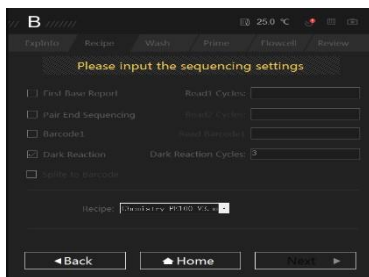

Figure 3 Dark reaction setting instruction (BGISEQ-500RS)
- 3.13.2 Follow the MGI sequencer User Manual to turn on the sequencer and to start the sequencing software. In the parameter settings interface, select "dark reaction" and enter the number "3" in the blank called "dark reaction read length." See Figure 3.